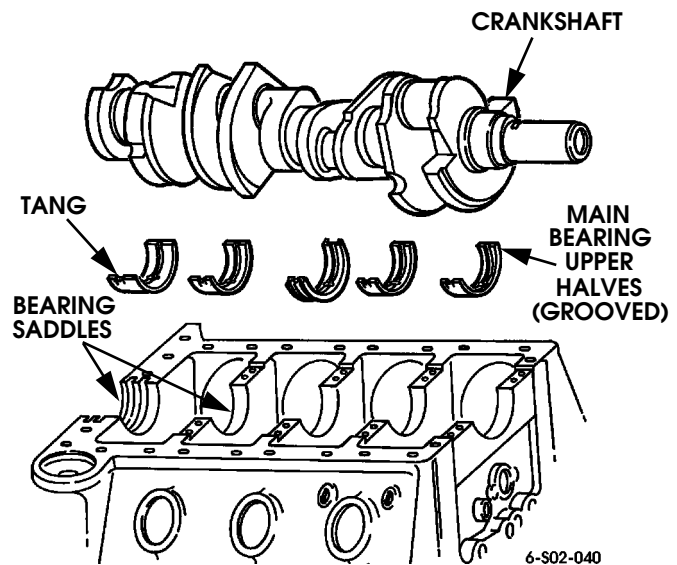

Figure 2-176: Installing Crankshaft and Main Bearing Upper Halves
3. Install main bearing upper halves in block (Figure 2-176). Install bearing halves dry. Do not lubricate bearing saddle in block or back of bearing. Be sure each bearing locating tab is properly seated in notch machined in block. Also be sure oil holes in bearing and block are aligned. Thrust bearing half goes in #3 main bearing saddle.